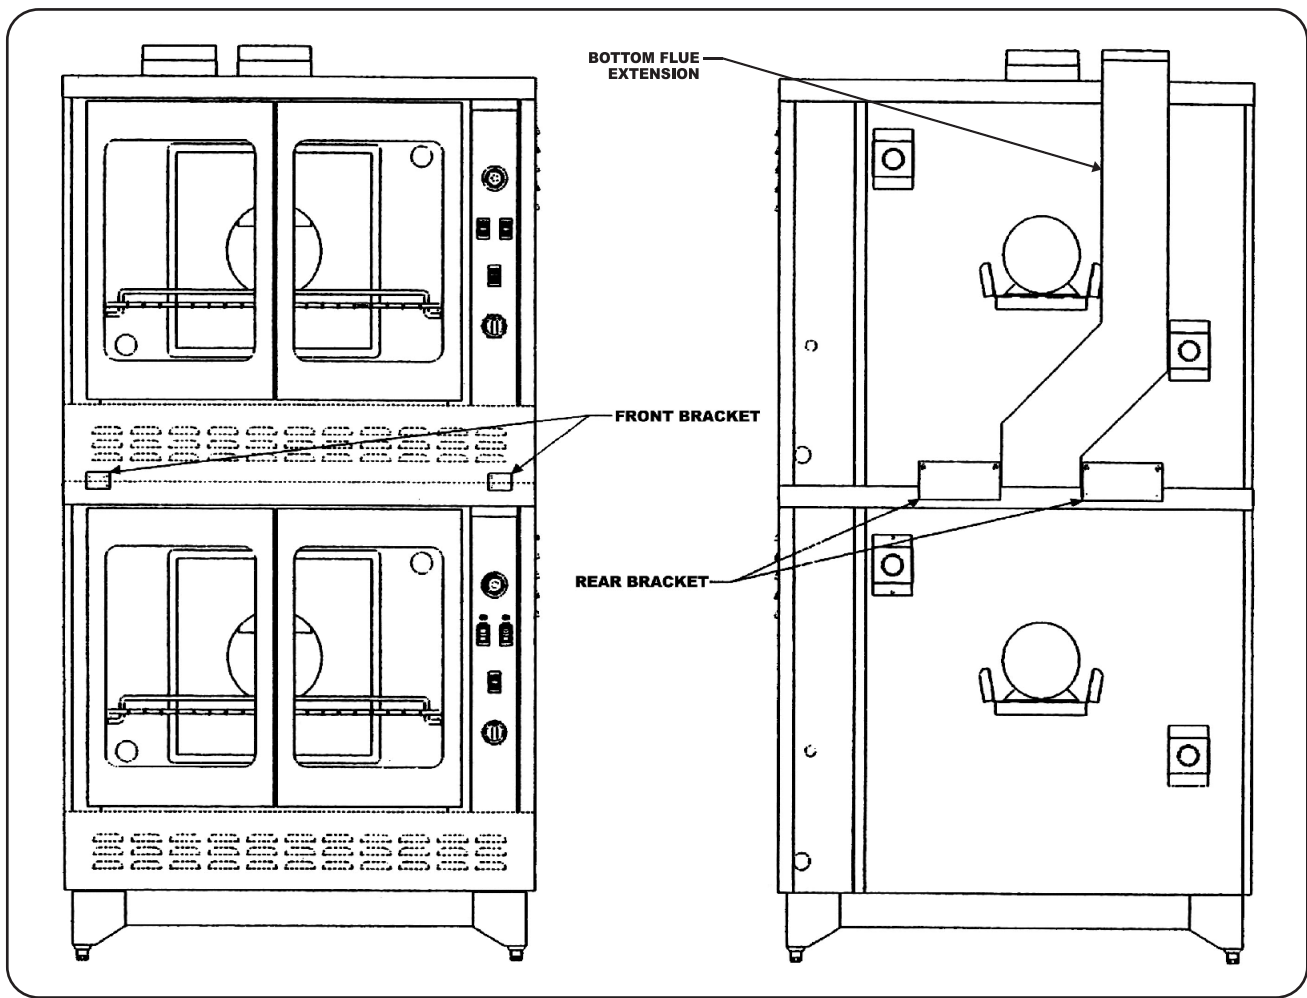

Fig. 2
3. Bolt down at rear and front as shown in (Fig. 2). Remove top kick plate to access screwing the front bolts.
4. Assemble bottom flue extension as shown in (Fig. 2).